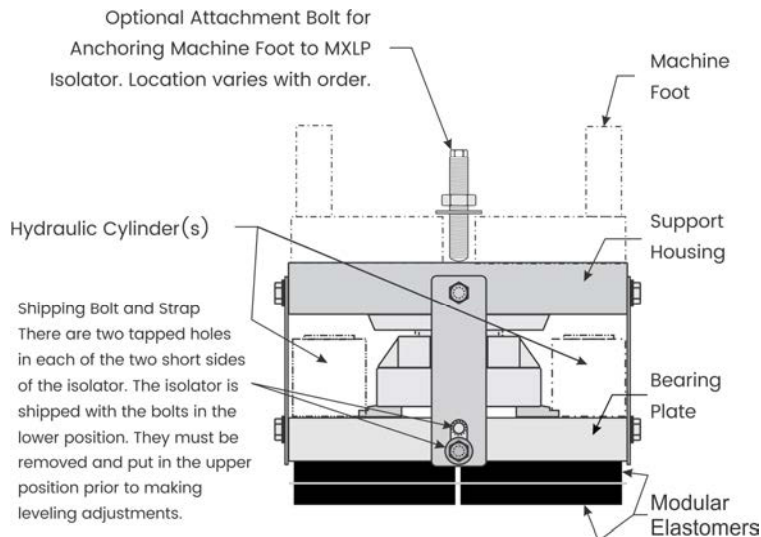

FIGURE 2
8. For proper performance, the Isolator Support Housing and Bearing Plate must be centered and aligned as shown in Figure 2. The isolator is equipped with shipping straps and bolts to maintain alignment between major isolator components during the handling and installation of the isolator.
11. Relocate the shipping bolts. There are two tapped holes in the Bearing Plate in each short side of the isolator. For shipping and handling, the shipping bolts are located in the bottom holes. The bolts *must* be relocated from the bottom holes to the top holes prior to making leveling adjustments. See Figure 2.